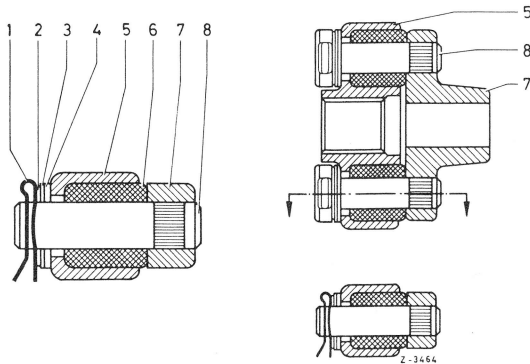

Fig. 1
1 Remove SL-lock (1) from both bolts (8), remove washers (2 and 3) and plastic washers (4). Then pull lower flange (5) from upper flange (7) and remove both bushings (6) (Fig. 1).